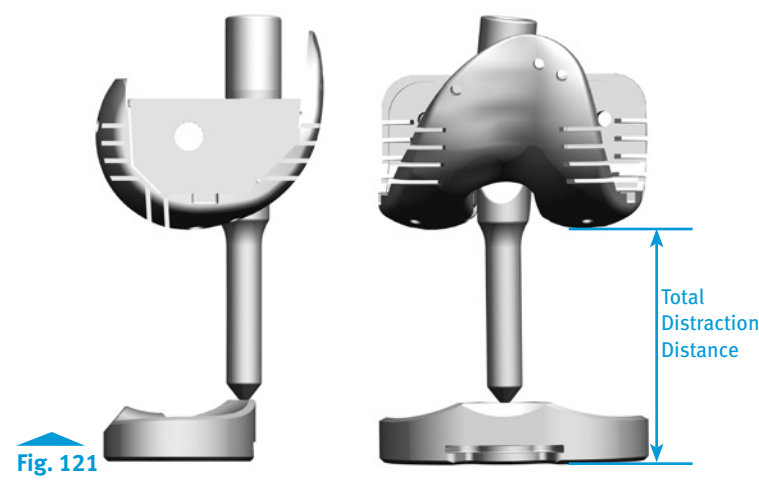

Fig. 121
- Measure soft tissue distraction available for back-table assembly with the Femoral Caliper by simulating the total height required to assemble the Segmental One-Piece Hinge Pin over and into the Segmental Articular Surface (Fig. 121 & Table 13).